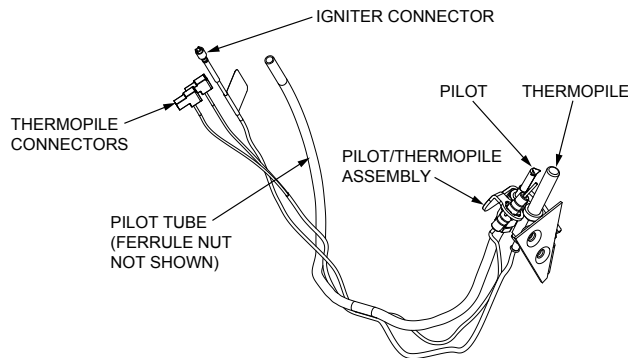

FIGURE 28.
5. Pull the pilot tube from the pilot assembly (Figure 28). IMPORTANT: Be careful not to bend or alter the position of the pilot assembly components.